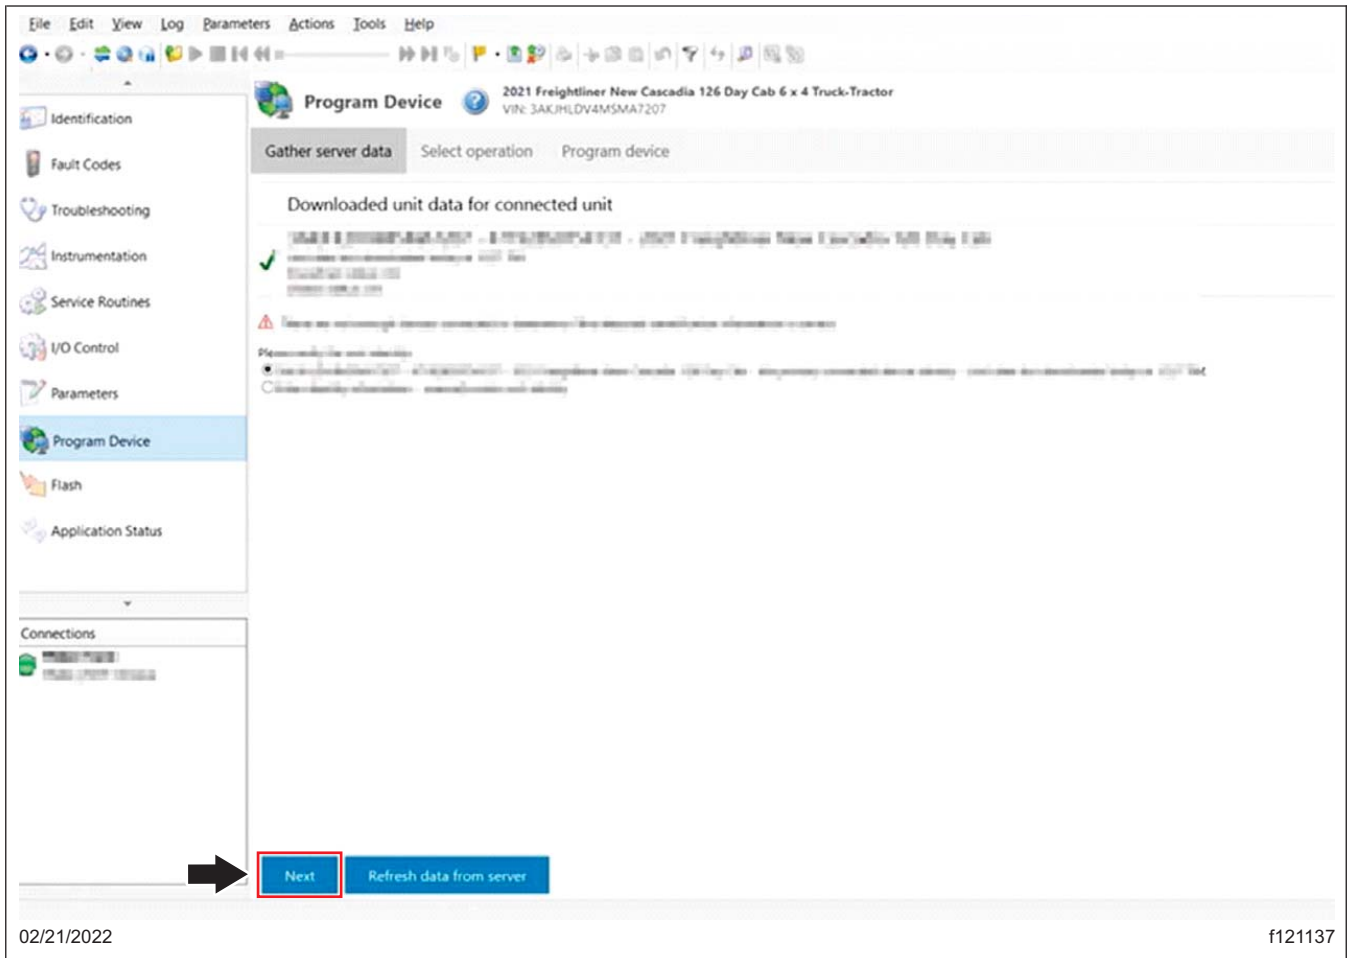

Fig. 7, Data Downloaded from Server
7.3 When the data has finished downloading, select 'Next.' See Fig. 7.